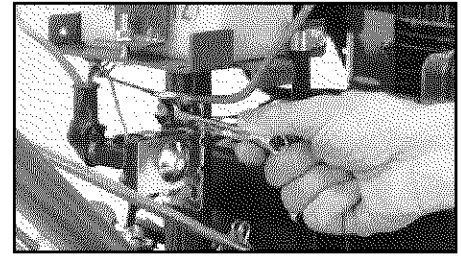

Figure 2-18: Check tightness of upper mounting screw.
4. Check the tightness of the upper mounting screw that secures the negative cable and starter solenoid to the battery post. See Figure 2-18. Scrape away any paint between the cable and the screw as the paint can prevent a good electrical ground.